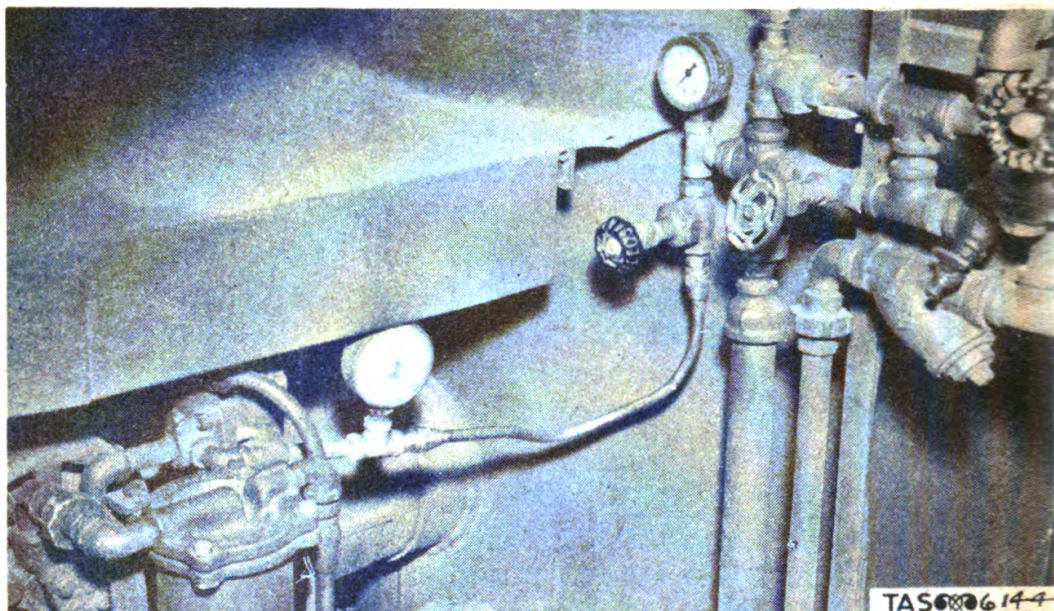

Fig. 2. Fuel Oil Jump-over.
b. Fuel oil jump-over. (See fig. 2.) Remove the pressure gage at the oil burner pressure regulating valve and screw a 1/4 x 3-inch nipple into the elbows from which the gage was removed. Screw a 1/4-inch tee onto the end of this nipple. Screw the pressure gage into one arm of the tee and into the other arm of the tee screw a 1/4 x 3/8-inch tubing connector. Remove the pressure gage and street elbow from the cross in the 1-inch special oil line at the oil manifold. Screw a close nipple and 1/4-inch tee into this connection. Into one arm of this tee screw the pressure gage. Into the other arm of the tee screw a close nipple and a 1/4-inch globe valve. Into the globe valve screw a 1/4 x 3/8-inch tubing connector. Connect the two tubing connectors with a length of 3/8-inch copper tube.